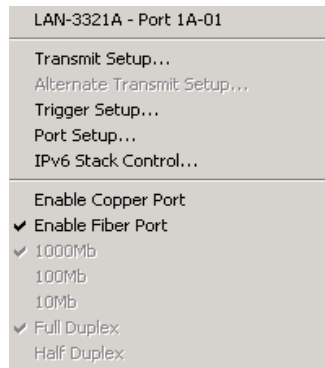

Figure 7-6. Port Menu
- 2 Click **OK** and return to the *Port* menu. (See Figure 7-6.)